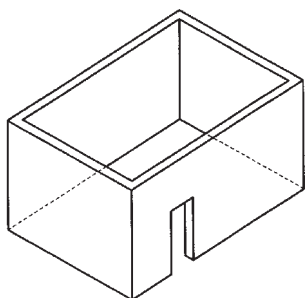

Figure 1 - Enclosure with walls on all sides but no overhead cover.
- An enclosure with walls on all sides, but at least one permanent opening at ground level and no overhead cover. See Figure 1.